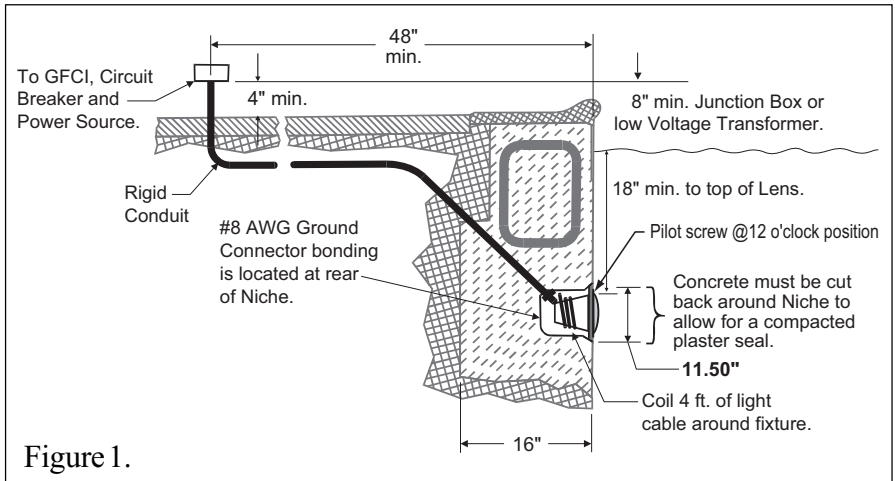

Figure 1.
A. Preparatory steps which must be completed by the electrician before light fixture is installed; see Figure 1.
- b. The Junction Box (or, for 12 volt models, the low voltage transformer) must be located at least 8 inches above water level, 4 inches above ground level, and at least 48 inches from the edge of the pool; see Figure 1.
- d. The wet niche must be properly installed so the pilot screw hole is at the 12 o'clock position and that the top edge of the underwater light's lens is at least 18 inches below the surface of the water in the pool; see Figure 1.
- e. The wet niche must be properly electrically bonded and grounded via the No. 8 AWG ground connector located at the rear of the niche; see Figure 1.
- 1. Feed cord through conduit to Junction Box, leaving at least 4 feet of cord at the light fixture to coil around the light; see Figure 1. This 4 feet of cord around the light allows the light to be serviced after the pool is filled with water.
- b. The Junction Box (or, for 12 volt models, the low voltage transformer) is located at least 8 inches above water level and at least 4 inches above ground level and at least 48 inches from the edge of the pool; see Figure 1.
- d. The wet niche is properly installed so that the top edge of the underwater light's lens is at least 18 inches below the surface of the water in the pool; see Figure 1.
- e. The wet niche is properly electrically bonded and grounded via the No. 8 AWG ground connector located at the rear of the niche; see Figure 1.
- Leave at least 4 feet of cord to coil around the light fixture; see Figure 1. This 4 feet of cord coiled around the light allows the light to be serviced after the pool is filled with water.